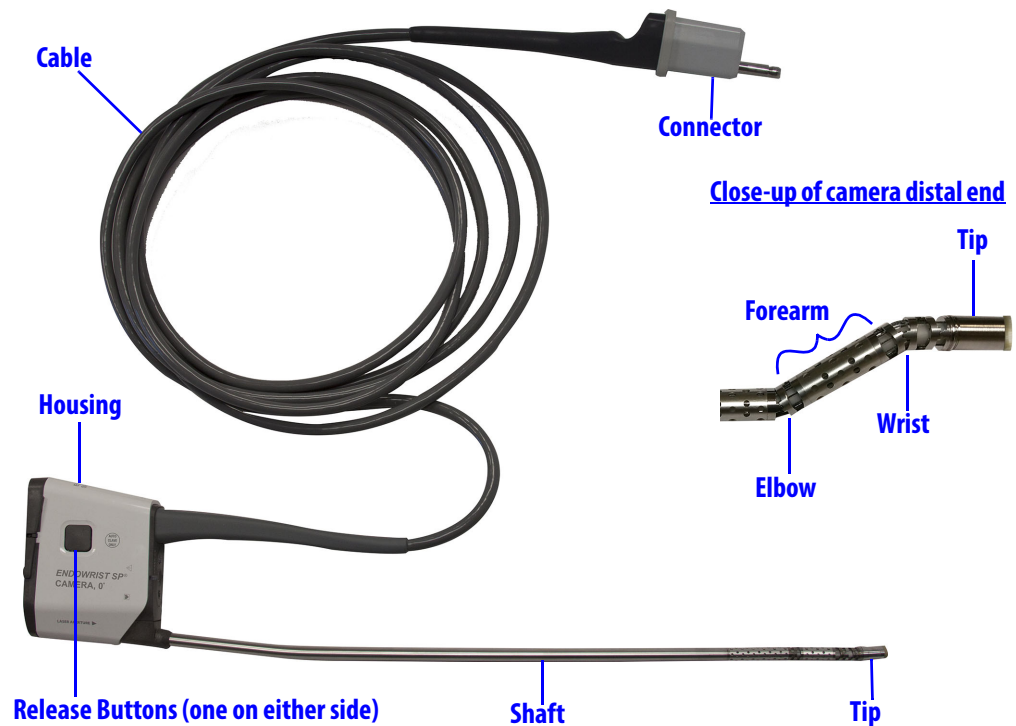

Figure 2.1 Camera
The camera consists of the tip, wrist, forearm, elbow, shaft, housing, release buttons, cable, and connector (Figure 2.1).
- i Note:** By design, the camera shaft has a slight bend near the housing. This is not a defect. (See Figure 2.1.)